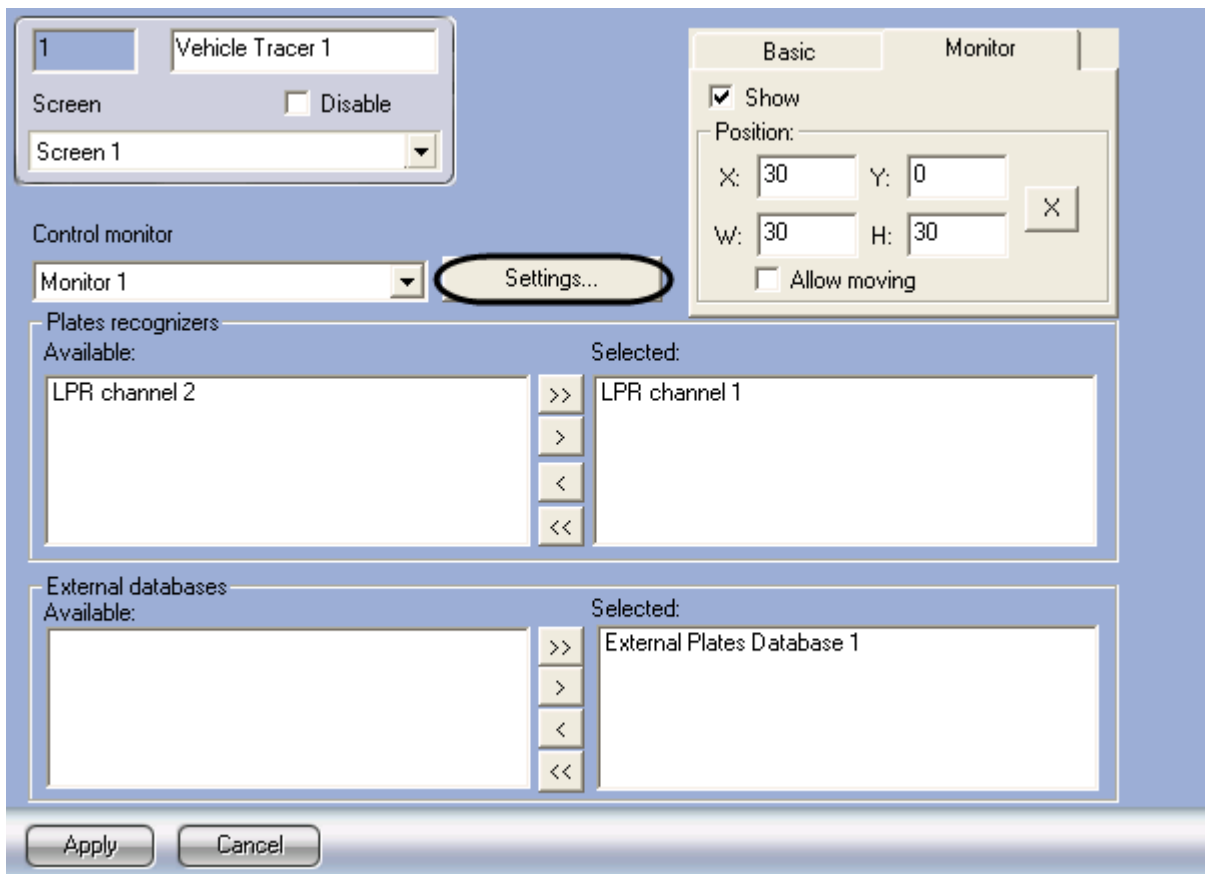

Fig. 7.8-9 Access to the settings of voice notification while registering the alarms
1. Go to the Vehicle tracer settings panel (Fig. 7.8-9).
2. Click Settings button (Fig. 7.8-9).